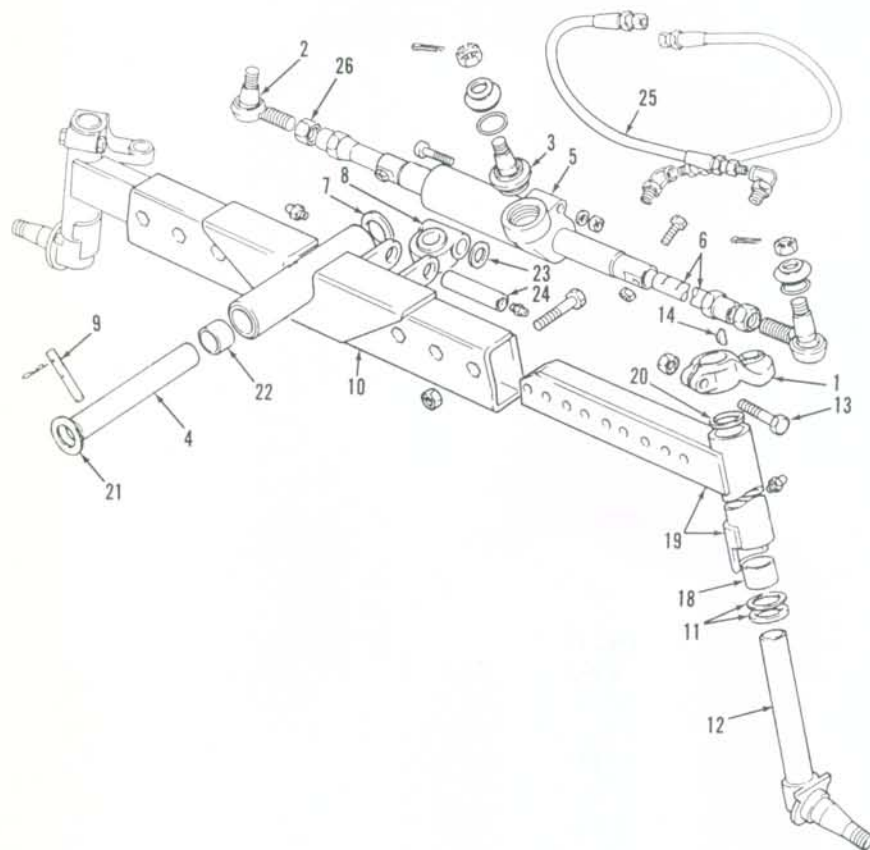
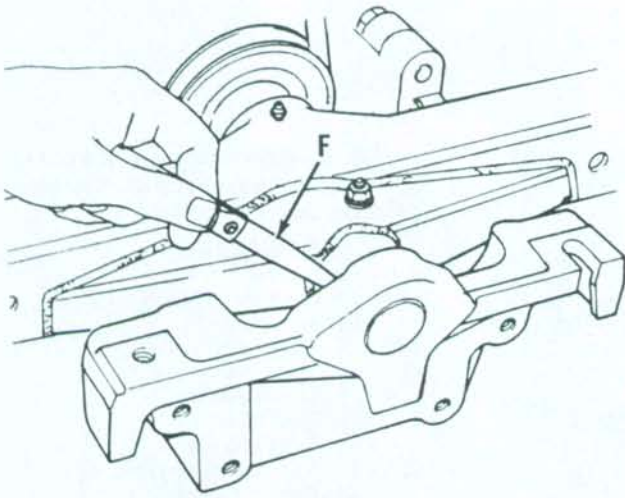
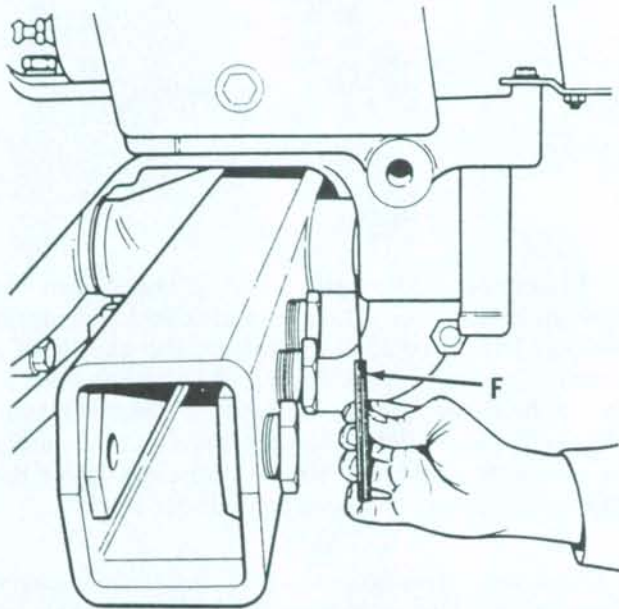

Fig. 8—Exploded view of front axle typical of type used on two-wheel-drive 365-398 models.
Fig. 10—End play of front axle should be measured with a feeler gauge as shown for 362 model with two-wheel drive.
Fig. 11—Measure end play of front axle with a feeler gauge as shown for models 365-398 with two-wheel drive.
3. SPINDLES, AXLE EXTENSIONS AND BUSHINGS. To remove spindle (12—Fig. 7 or Fig. 8), first remove the wheel and hub. Disconnect rod end from steering arm (1), remove clamp screw (13) from steering arm, then remove steering arm. Remove key (14) and seal (20) from top of spindle, then lower spindle out of axle extension (19). Remove thrust bearing (11) from spindle. Clean and inspect parts for wear or other damage and renew as necessary.
Disconnect hydrostatic steering hoses from the steering cylinder or cylinders and cover openings to prevent the entry of dirt. Support the axle with a suitable jack to prevent tipping while permitting the axle to be lowered and moved safely. Remove retaining pin (9—Fig. 7 or Fig. 8), then use a suitable puller to withdraw axle pivot pin (4). Carefully lower the axle assembly and roll axle from under tractor.
Check axle pivot bushings and renew if necessary. Bushings are located in support housing of 362 models and should be installed flush to 0.5 mm (0.020 inch) below flush (A—Fig. 9) with housing bore. Split (C—Fig. 9) in bushing should be down and hole (C) for grease passage should be up as shown. Axle pivot bushings are located in axle of 365-398 models. On all models, it may be necessary to ream bushings after installation. Reverse removal procedure when assembling. Axle end play should be 0.05-0.25 mm (0.002-0.010 inch) on pivot pin. Push the axle toward rear on pivot pin, then measure axle end play with a feeler gauge as shown in Fig. 10 or Fig. 11. Shims (21—Fig. 7 or Fig. 8) are available in various thicknesses for adjusting end play. On 362 models, make sure that tapered pin (9—Fig. 7) is correctly and firmly seated, then tighten retaining nut to 80-140 N·m (70-110 ft.-lbs.) torque. On all models, refer to paragraphs 2 and 3 for additional torque values and assembly notes.